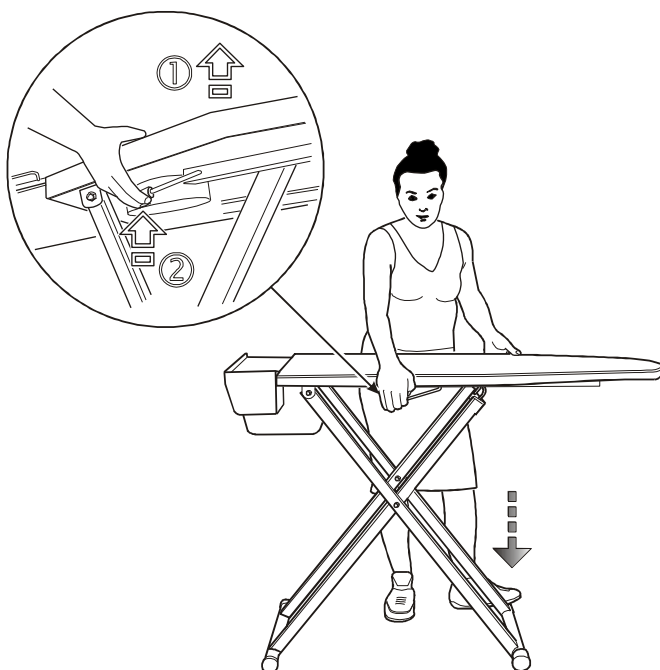

Fig. 8
2. Slightly lift the board upwards and completely pull the specific lever (fig. 8).